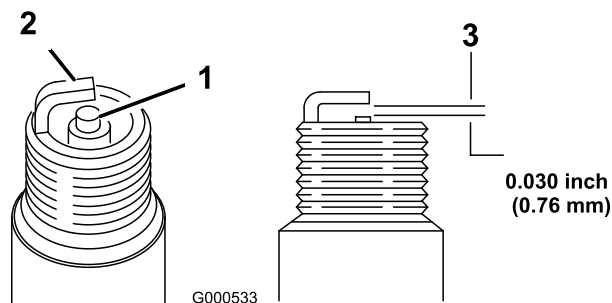

Figure 25
5. Set the gap on the plug to 0.76 mm (0.030 inch); refer to Figure 25.